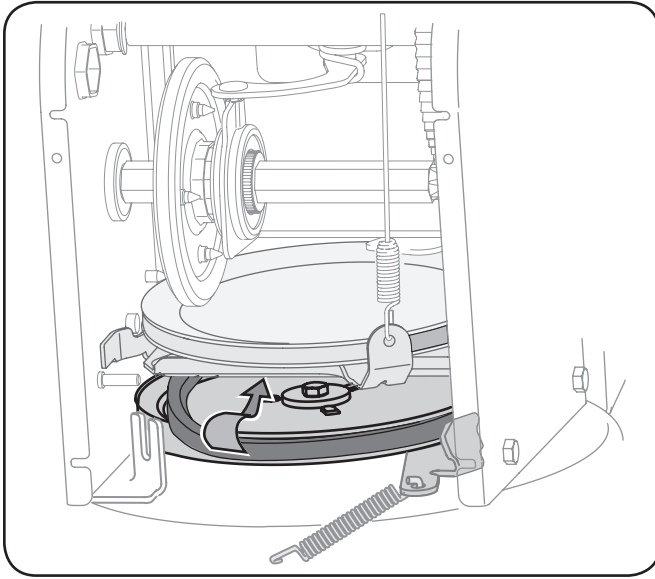

Figure 7-5
6. Remove the belt from around the auger pulley, and slip the belt between the support bracket and the auger pulley. See Fig. 7-5.